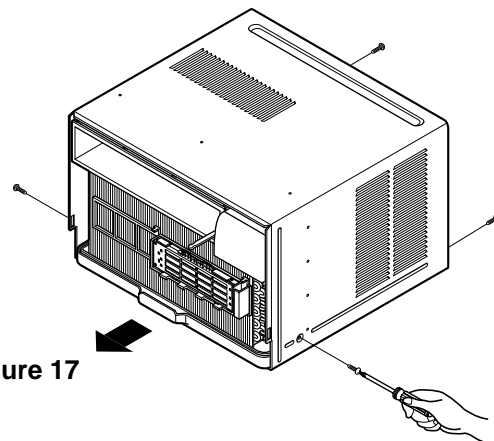

Figure 17
3. Pull the base pan forward. (See Figure 17)